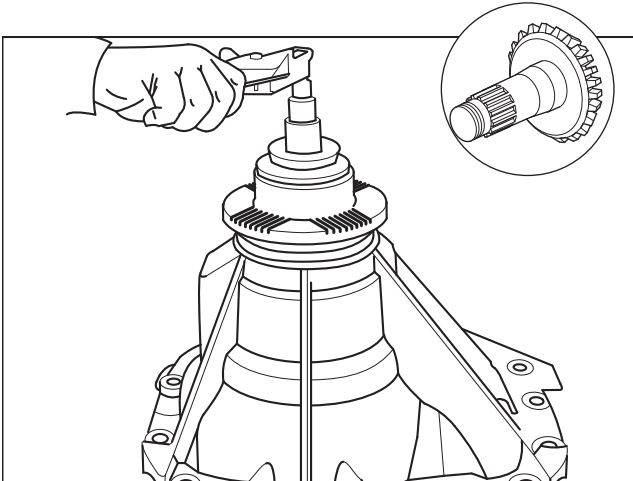

Fig. 2.14
14. Check pinion pre-load, 6 to 10 Nm tolerance. (Fig.2.14)